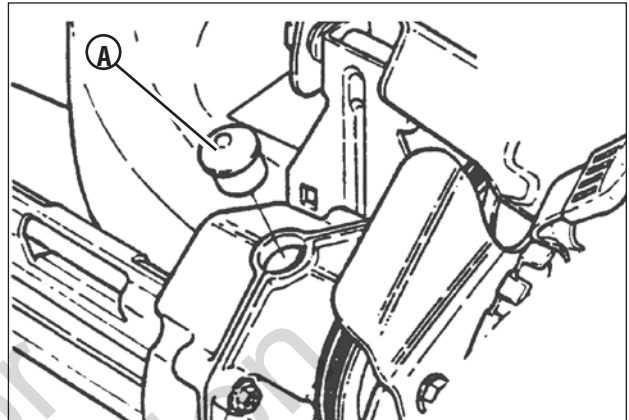

Figure 14: Removing the transmission fill plug
1. Remove the transmission fill plug (A, Figure 14). Roll the machine forward or backward while looking down into the plug hole.